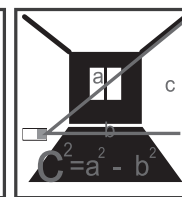

Fig. 11
- Indirect measurement (Pythagorean theorem): Figure 11.